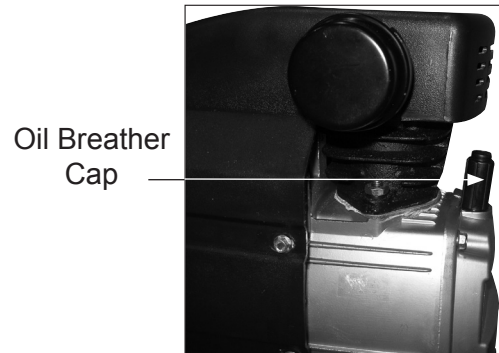

Fig. 6
Add Oil and Install Oil Breather Cap (Fig. 6 & 7)
3. Remove the Oil Shipping Plug from the Oil Fill Hole located on the top of the Crankcase cover at the rear of the Air Compressor (Fig. 6).